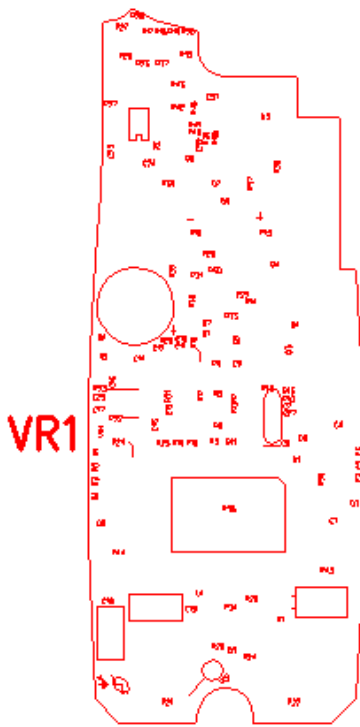

Figure 1A (61-732)
**61-732 (Refer to Figure 1A), 61-736 (Refer to Figure 2A)**